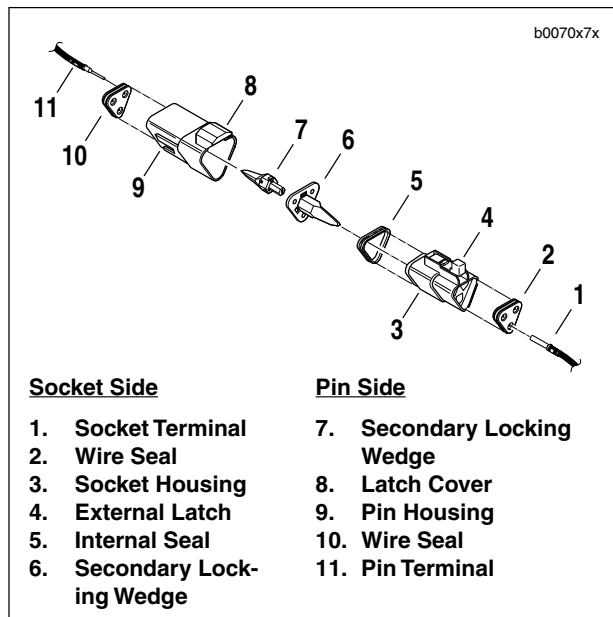

Figure 7-74. 3-Pin Connector
1. See Figure 7-74. Remove the secondary locking wedge (6). Insert the blade of a small screwdriver between the socket housing and locking wedge inline with the groove (inline with the pin holes if the groove is absent). Turn the screwdriver 90° to pop the wedge up.
2. Gently depress terminal latches inside socket housing (3) and back out socket terminals (1) through holes in rear wire seal (2).
3. Fit rear wire seal (2) into back of socket housing, if removed. Grasp socket terminal approximately 1.0 in. (25.4 mm) behind the contact barrel. Gently push sockets through holes in wire seal into their respective chambers. Feed socket into chamber until it “clicks” in place. Verify that socket will not back out of chamber; a slight tug on the wire will confirm that it is properly locked in place.
4. Install internal seal (5) on lip of socket housing, if removed. Insert tapered end of secondary locking wedge (6) into socket housing and press down until it snaps in place. The wedge fits into the center groove within the socket housing and holds the terminal latches tightly closed.
1. See Figure 7-74. Remove the secondary locking wedge (7). Use the hooked end of a stiff piece of mechanic's wire or a needle nose pliers, whichever is most suitable.
2. Gently depress terminal latches inside pin housing (9) and back out pin terminals (11) through holes in wire seal (10).
3. Fit wire seal (10) into back of pin housing (9). Grasp crimped pin approximately 1.0 in. (25.4 mm) behind the contact barrel. Gently push pins through holes in wire seal into their respective numbered locations. Feed pin into chamber until it “clicks” in place. Verify that pin will not back out of chamber; a slight tug on the wire will confirm that it is properly locked in place.
4. Insert tapered end of secondary locking wedge (7) into pin housing (9) and press down until it snaps in place. The wedge fits in the center groove within the pin housing and holds the terminal latches tightly closed.